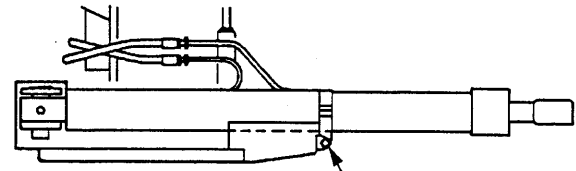

Fig. 11-25
(10) Fully retract the horizontal cylinder, and fix the cylinder to the stowing position. (Fig. 11-25)